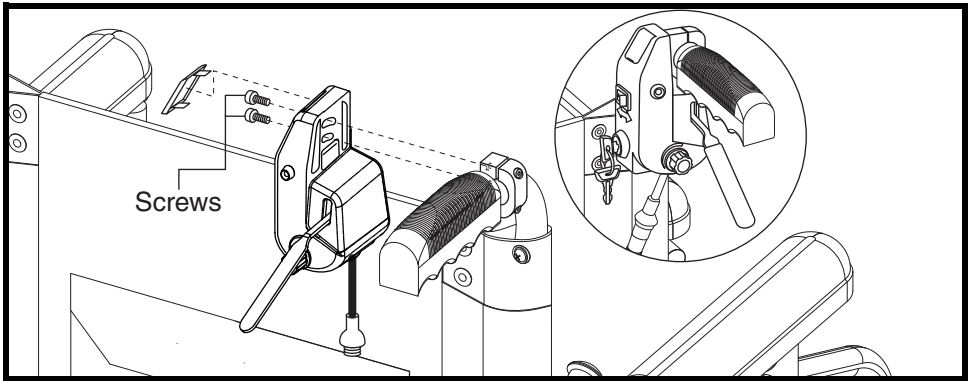
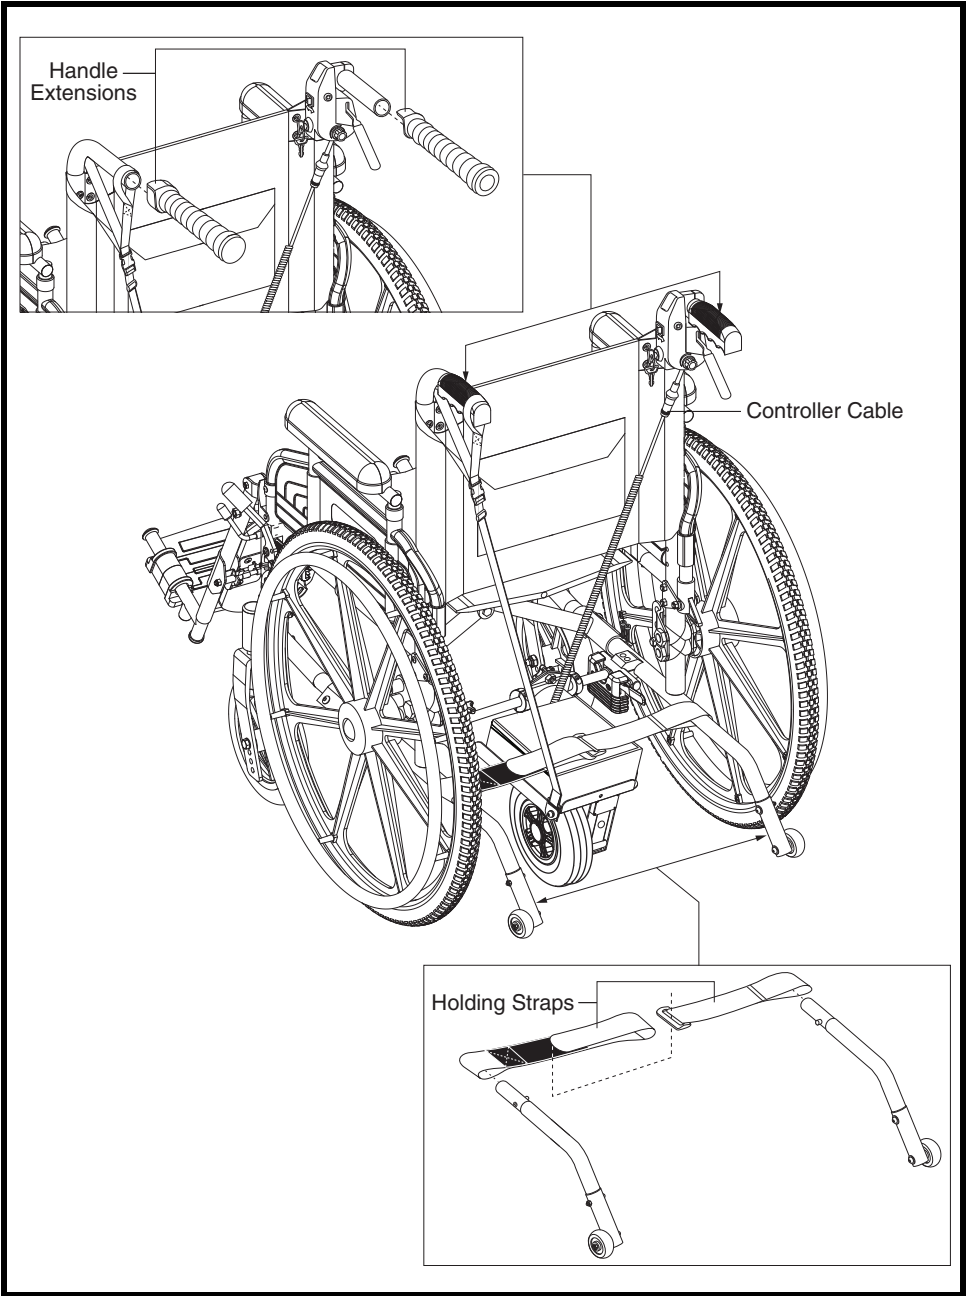

Figure 4. Controller Bracket Installation
Figure 6. Controller Cable Routing and Holding Strap Installation (One-wheel Model Shown)
9. Fit the control module bracket to one of the back canes of the wheelchair, making sure that the seatback does not touch the controller bracket when the seatback is reclined, if equipped. Tighten the hardware. **See figure 4.**
12. Route the cable from the powerpack up along the seatback and connect the socket from the powerpack to the control module. **See figure 6.**
13. Attach each holding strap to the bottom of the wheelchair frame as shown in **figure 6.**
4. Install the handle extension so that the flat side of the handle extension is against the controller bracket. **See figure 4 and figure 6.**